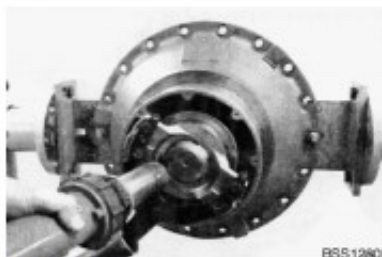

Figure 128
1. Legend on Figure 124 - Figure 128